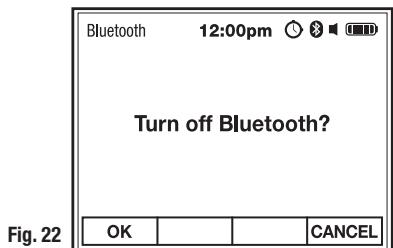

Fig. 22
- Use the F1 OK soft key to turn Bluetooth® on or off and return to Meter Settings (Fig. 22).